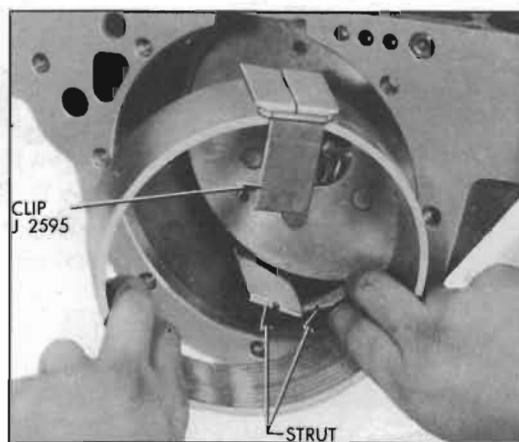

Figure 4-83—Removing Band with Clip J 2595
2. Compress the low band with the operating lever while applying Band Clip J 2595 across the strut flanges of the band. Release the lever and remove low band, then remove the struts which will drop into case. See figure 4-83.